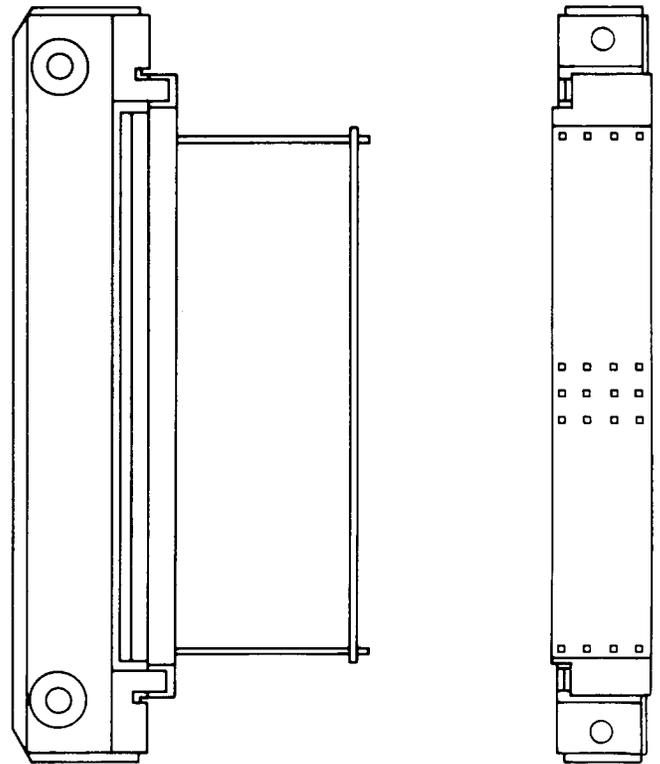

Fig. 18—985A Connector
2.14 985A: The 985A connector (Fig. 18) consists of 2 molded insulating parts, 2 metal covers riveted to 1 of the molded parts, and 82 terminals. The terminals are 0.025 inch square positioned on 0.125 inch centers on a backplane grid, designed to accommodate a multilayer printed wiring board and up to 3 levels of 28 or 30 AWG solderless wrapped connections. The connector is designed for use with the 984A connector in RSS.